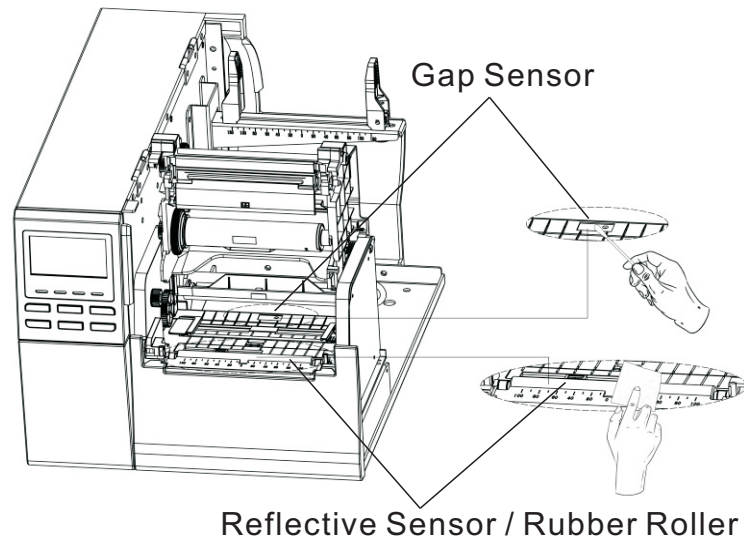

Figure21
2. As shown in Figure 21, use a soft cloth dipped in absolute alcohol to wipe the cleaning rubber roller.